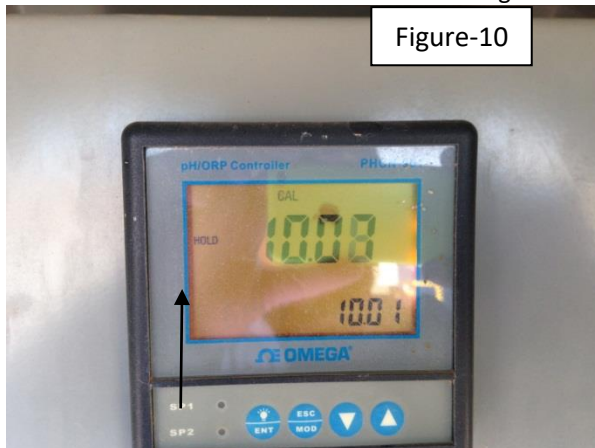

Figure-10
2.3.1.8.2 After pH has stabilized hit enter on PLC. Figure-10 below demonstrates PLC calibrating to buffer 10. If PLC's screen indicates an error (ERR), start troubleshooting alternate problems. See Note on 2.3.1.6.2 for corrective action. See Figure-6 for ERR illustration.